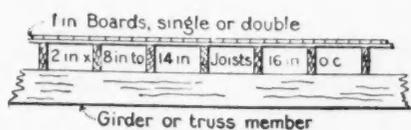

Fig. 1. Undesirable Construction
3. Floors are best made of spruce plank 4 inches or more in thickness according to the floor loads, spiked directly to the floor timbers and kept at least  $\frac{1}{2}$  inch clear of the face of the brick walls. Figs. 1 and 2 show bad and good forms of floor construction. In floors and roof, the bays should be 8 to 10  $\frac{1}{2}$  feet wide and all plank two bays in length, laid to break joints every 4 feet and grooved for hard wood splines. Usually a top floor of birch or maple is laid at right angles to the planking, but the best mills have a double top floor,